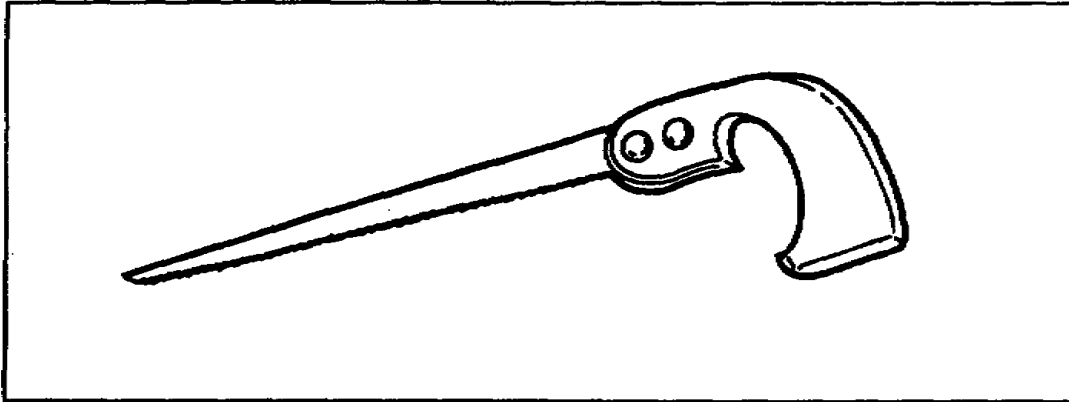

Figure 2-8. Compass saw
(3) Compass Saw. The compass saw (Figure 2-8) has 10 points to the inch. It may be equipped with a blade (with 13 points to the inch) for cutting nails. Its main function is cutting holes and openings such as electrical outlets, where a power tool would be too large.